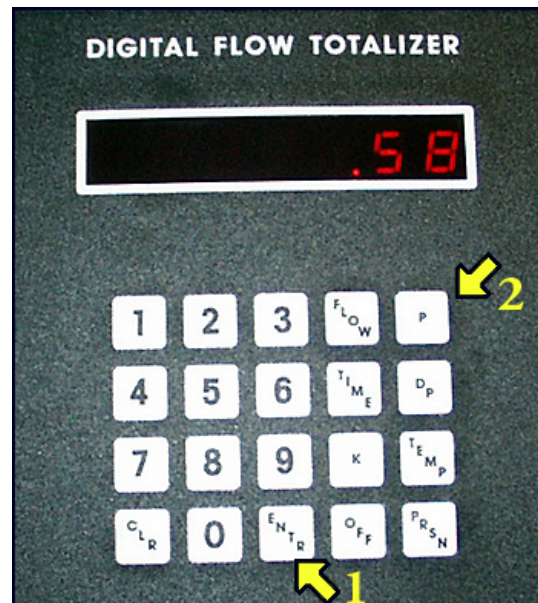

Figure 9
- 117 On the “Digital Flow Totalizer” keypad, press <enter>. See arrow 1 in Figure 9. Then press <p>. See arrow 2 in Figure 9.